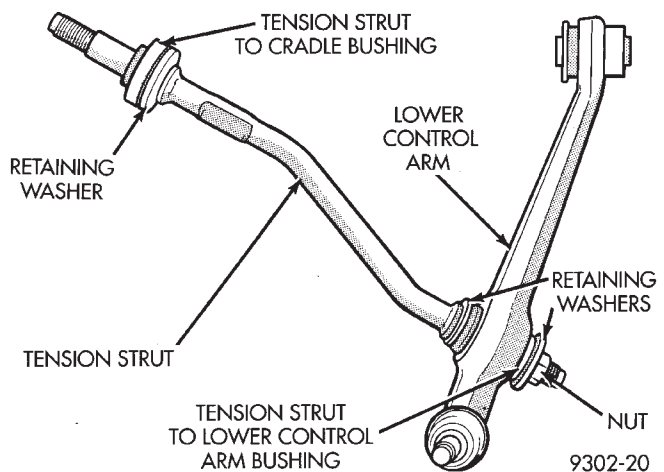

Fig. 44 Tension Strut Bushing Installation On Tension Strut
(1) Remove lower control arm and tension strut as an assembly from the vehicle. See Lower Control Arm in the Removal and Installation section of this service manual for the required removal procedure.
(2) Remove the tension strut to cradle isolator bushing from the tension strut. Install replacement isolator bushing on tension strut until it is seated against retaining washer (Fig. 44).